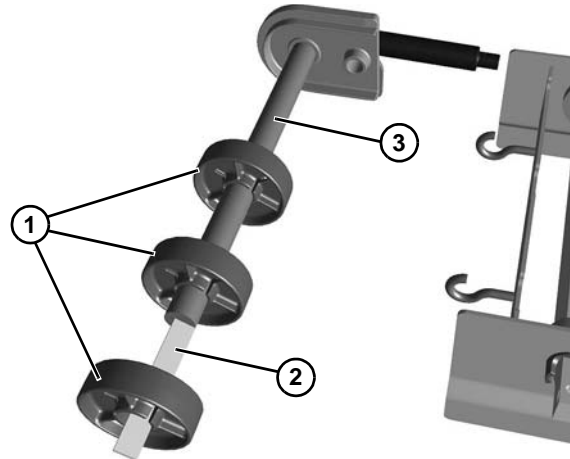

Figure 58
6. Slide the pucks (Figure 58, item 1) and alignment bar (Figure 58, item 2) off the idler shaft (Figure 58, item 3).